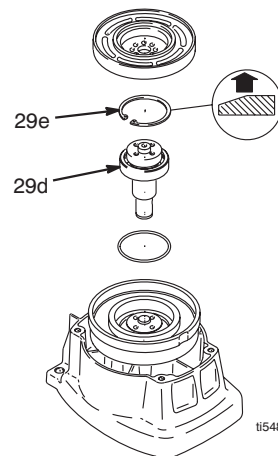

FIG. 7
7. FIG. 7. Remove retaining ring (29e).
6. Install three screws (35) through cart frame (1) and into clutch housing (19).
7. Apply Loctite® to screw (20). Install screw, washer (61), key (18) and pulley (62) in end of drive shaft assembly (19c). End of driveshaft (19c) must be 0.090 in. below flush with end of bushing.
8. Hold pulley (62) and install four screws (23) and washers (24) in hub (26). Torque to 125 in-lb (14 Nm).
9. Install belt guard (146), belt guide bracket (148) and Vee belt (147).
10. FIG. 7. Tap pinion shaft (19c) in with plastic mallet.